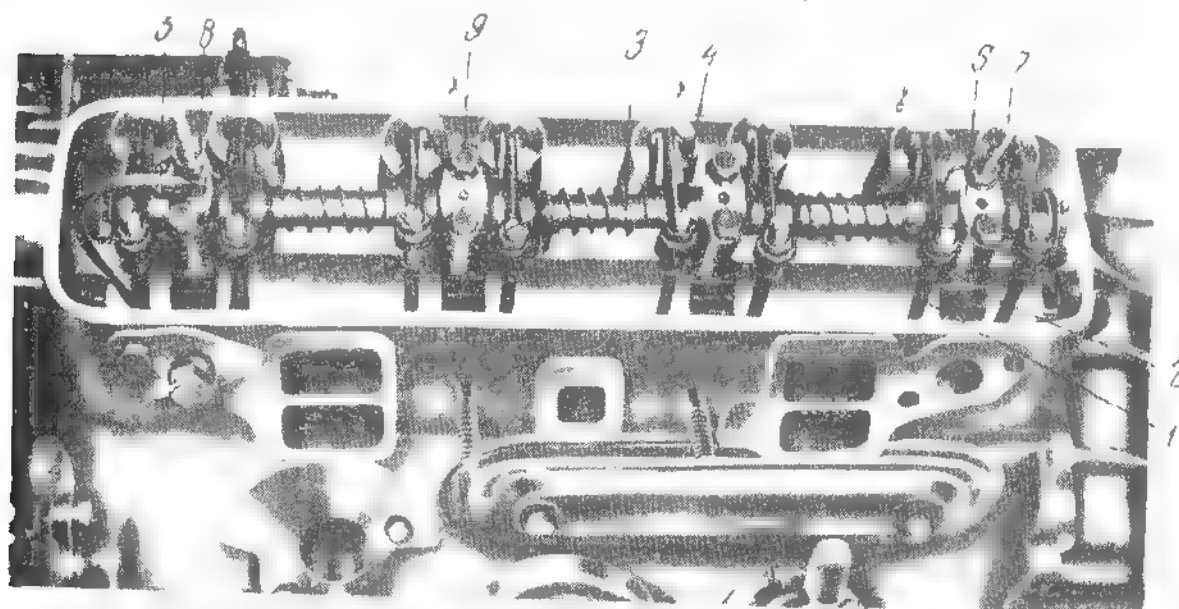

Fig. 4.68. ROCKER ARM FITTED ON CYLINDER HEAD.
- Dip end of push rods (1) - see Fig.4.68 - in oil and fit them in marked order on each respective tappet.